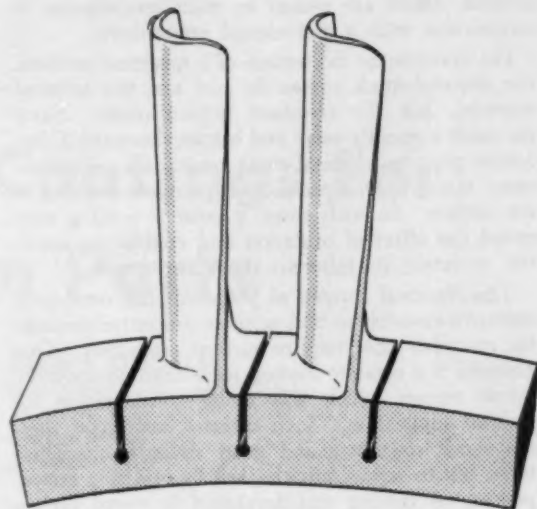

Fig. 21—Aircraft gas-turbine wheel with buckets welded to rim. The notch at the base of each bucket is neutralized by means of a keyhole slot.
**STRESS-RELIEF CUTOUTS:** It is sometimes possible to alleviate the high stress concentration in sharp discontinuities by "rounding out" the discontinuity at its critical point, Fig. 21.